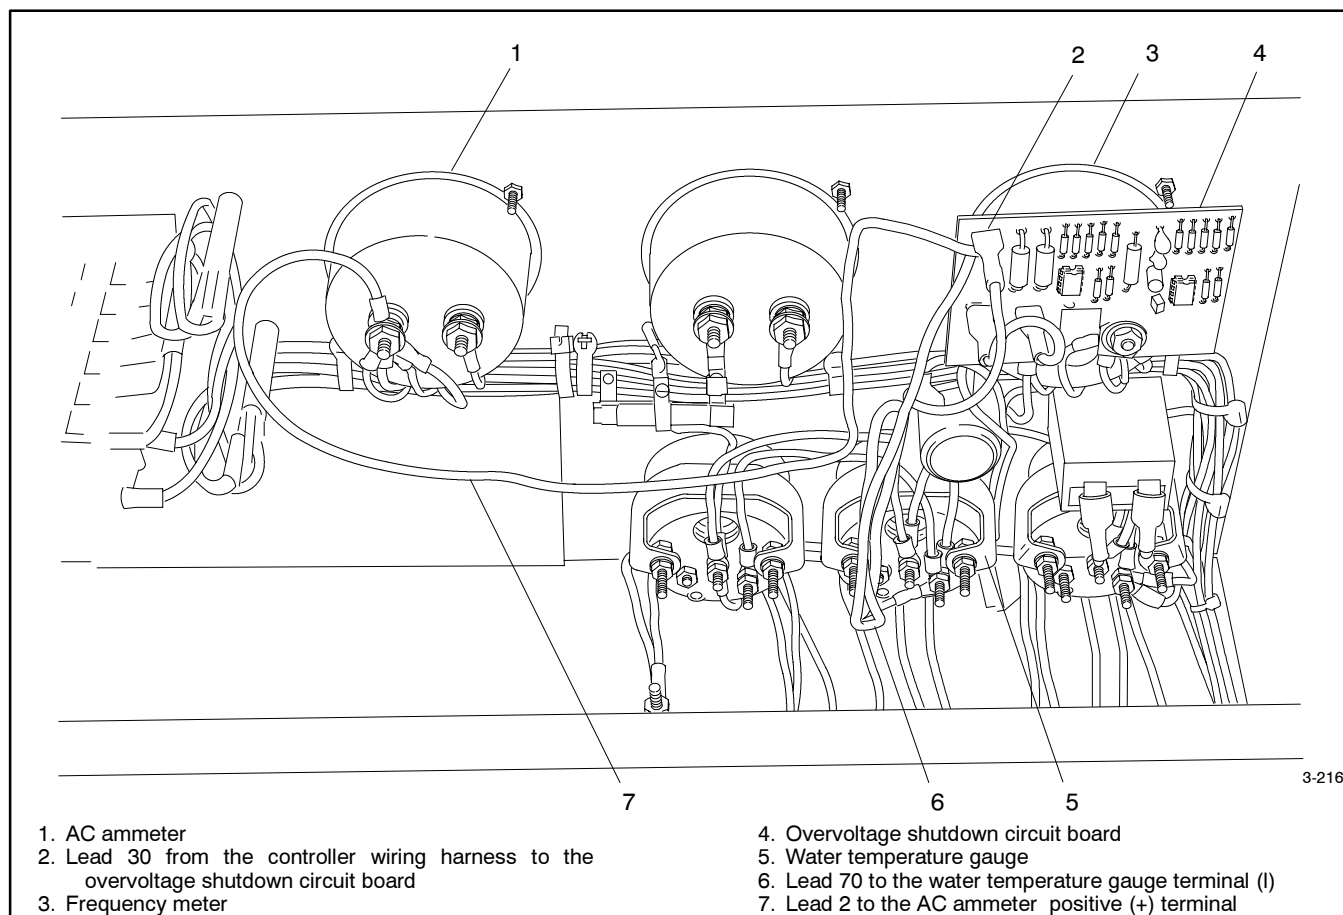

Figure 2 Overvoltage Shutdown Board Connections
6. Install the overvoltage shutdown board on the back of the frequency meter. See Figure 2.
7. Attach the wiring using Figure 2.
- b. Connect lead 70 to the water temperature gauge terminal (I).